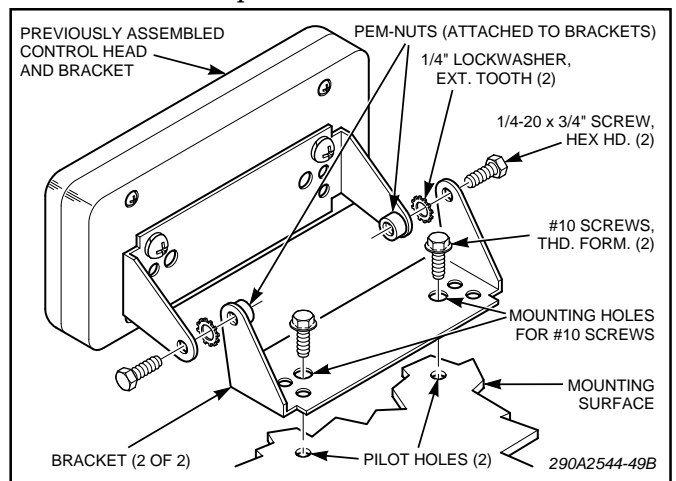

Figure 3-4. Control Head and Bracket Installation.
A. Assemble a bracket to the control head using the 6-32 x 1/4 screws and #6 lockwashers. Assemble the other bracket to the control head/bracket assembly using the 1/4-20 x 3/4 hex head screws and 1/4 inch lockwashers as shown in figure 3-4.
D. Secure the mounting bracket to the mounting surface with the #10 thread-forming screws as shown in figure 3-4.